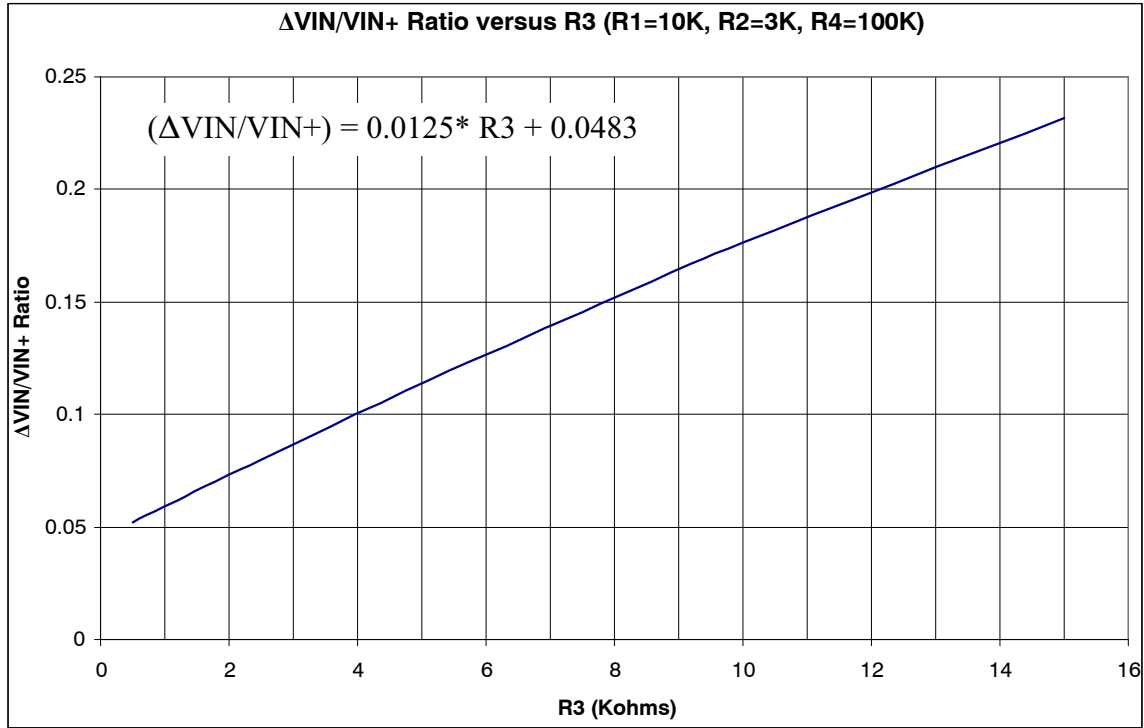
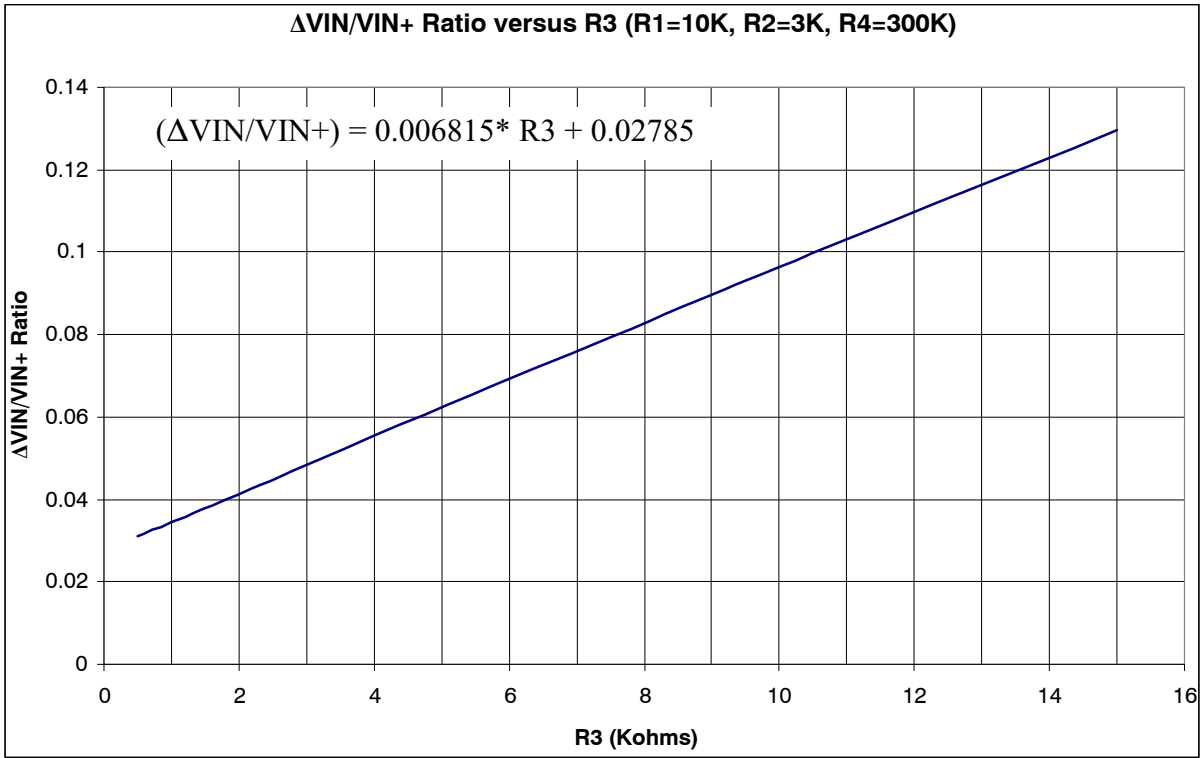
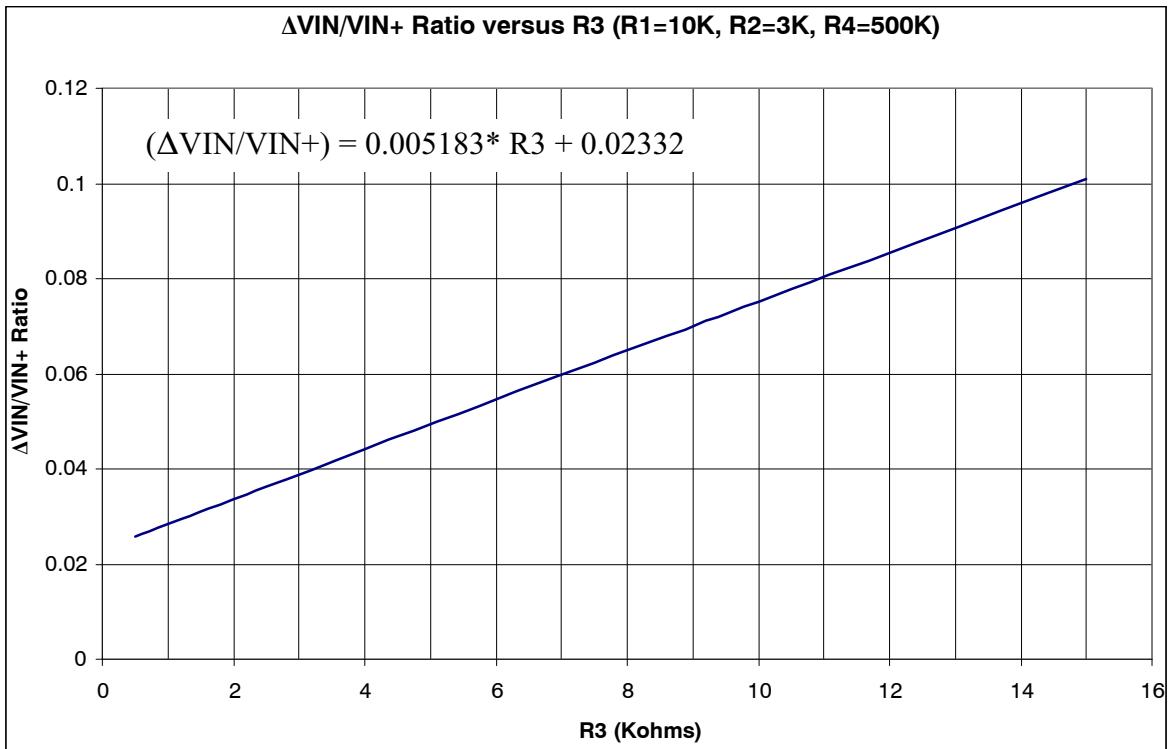

Figure 4. Chart for  $\Delta V_{IN}/V_{IN+}$  Ratio versus R3
Figure 10. Chart for  $\Delta V_{IN}/V_{IN+}$  Ratio versus R3 (R4 = 300k)
Figure 12. Chart for  $\Delta V_{IN}/V_{IN+}$  Ratio versus R3 (R4 = 500k)
3. From Figure 4 chart with make use of the equation provided, evaluate  $R_3$  based on the calculated  $\Delta V_{IN}/V_{IN+}$ . If  $R_3$  is found to be negative, try to use  $R_4 = 300k$  (use Figure 10) or  $R_4 = 500k$  (use Figure 12) and repeat  $R_3$  evaluation.
**Step 3:** From the Figure 4 chart with make use of equation, we have